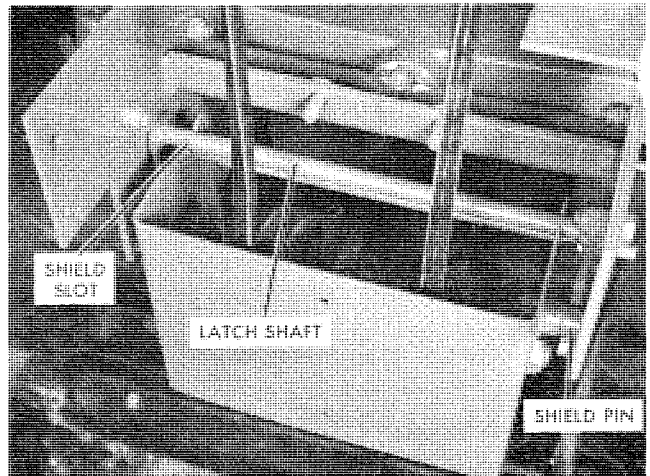

Fig. 7 — Belt Installation — Pulley Shield Installed
7. Check the front hitch latch to make sure it is open and, pulling forward and upward, insert the pulley shield assembly into hitch. Make sure to seat the shield slots around the latch shaft and the shield pins into the hitch slots. Lock the hitch latch and recheck to see that the assembly is aligned and locked properly. See Fig. 7.